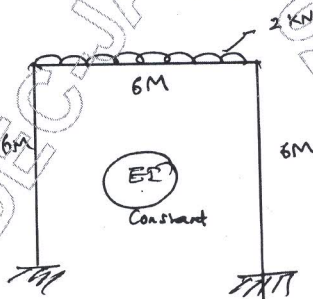

Fig.Q3
- 3 Using force transformation matrix, analyze the frame shown in Fig.Q3. Draw BMD. (20 Marks)